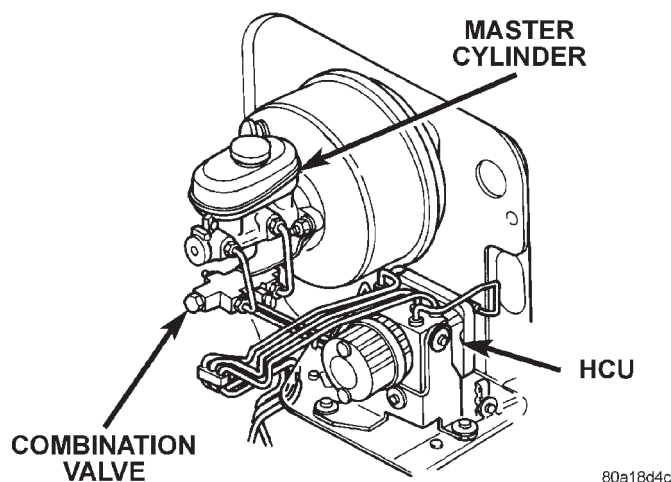
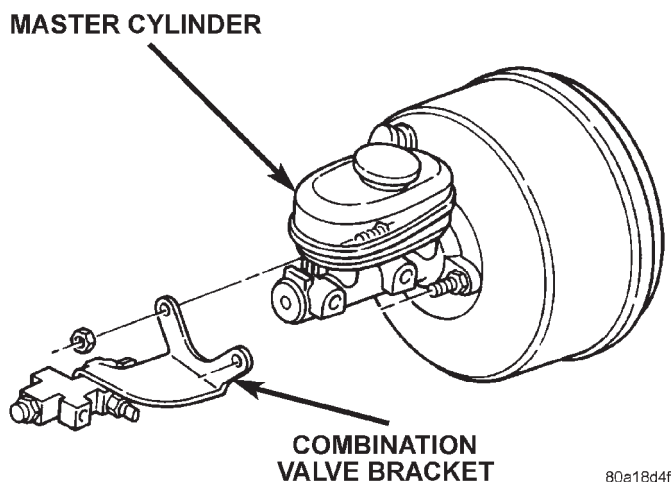

Fig. 12 Combination Valve Brake Lines
Fig. 13 Combination Valve Bracket
- (1) Remove brake lines that connect master cylinder to combination valve (Fig. 12).
- (2) Disconnect brake lines that connect combination valve to HCU.
- (3) Disconnect wire from combination valve switch terminal. Be careful when separating wire connector as lock tabs are easily damaged if not fully disengaged.
- (4) Remove nuts attaching combination valve bracket to booster studs and valve bracket off booster studs (Fig. 13).